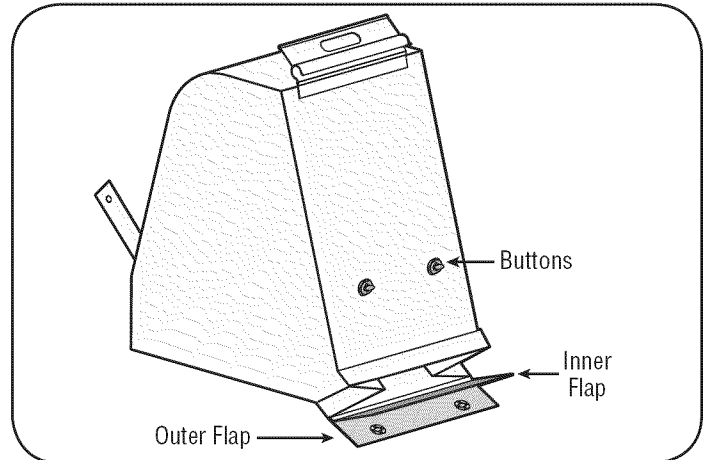

Figure 14
5. Twist the two buttons on the back of the bag to unlock and empty contents. See Figure 14. Hold bag handle and bag clip while emptying the contents.
7. Fold outer flap over inner flap and insert buttons on the bag through metal outlets. See Figure 14.